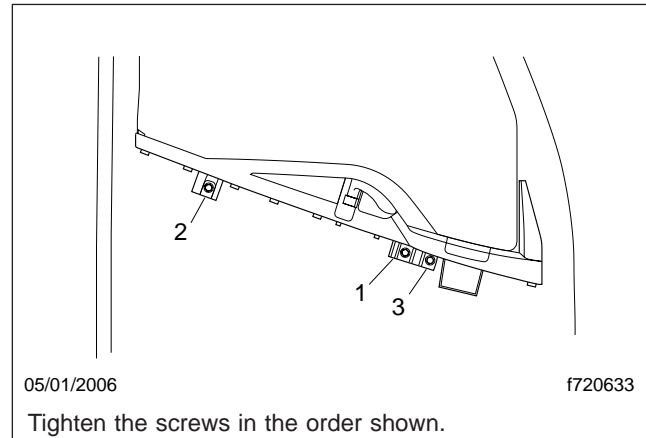

Fig. 8, Upper Door Trim Screw Tightening Order
8. Install the upper door trim panel on the door. Tighten the door trim screws 7 to 11 lbf-ft (10 to 15 N·m). See Fig. 8.